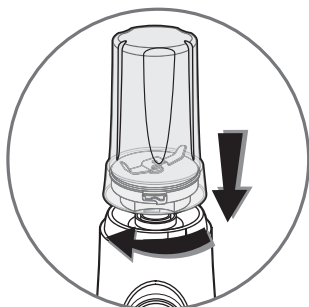

fig.5
3. Turn the assembled chopper or grinder accessory upward. Place the chopper or grinder accessory onto the motor unit (G) and lock it (Fig. 5).
6. You can store the preparation in the fridge by removing the chopper or grinder blade unit, and covering the lid with the seal (J).